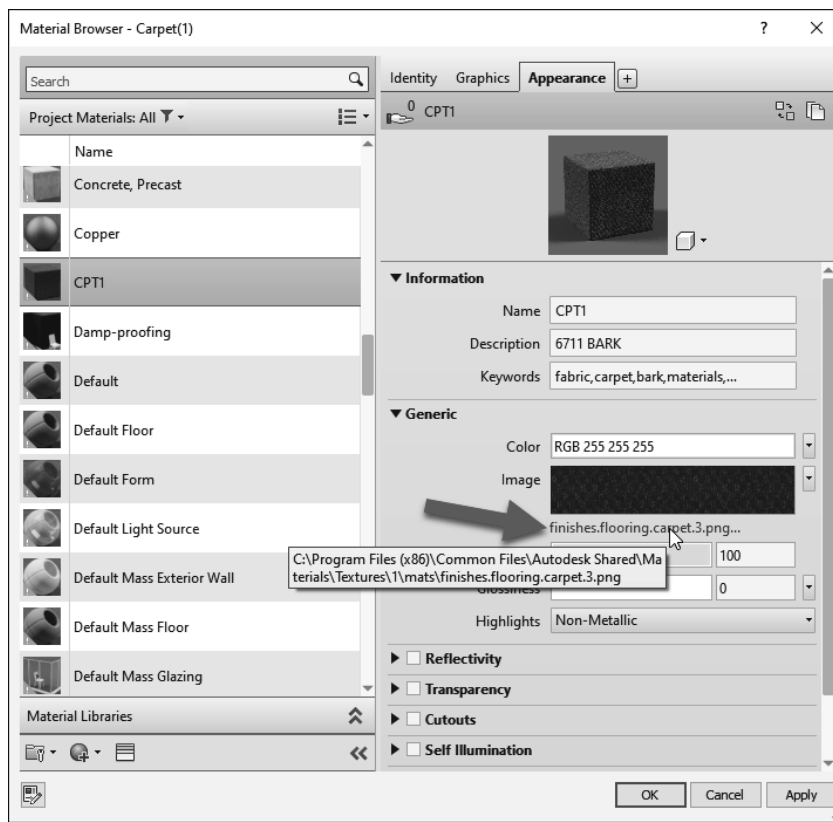

FIGURE 4-3.9 Selecting a new image file for appearance asset
20. In the *Generic* section, click on the file name link pointed out in Figure 4-3.9.